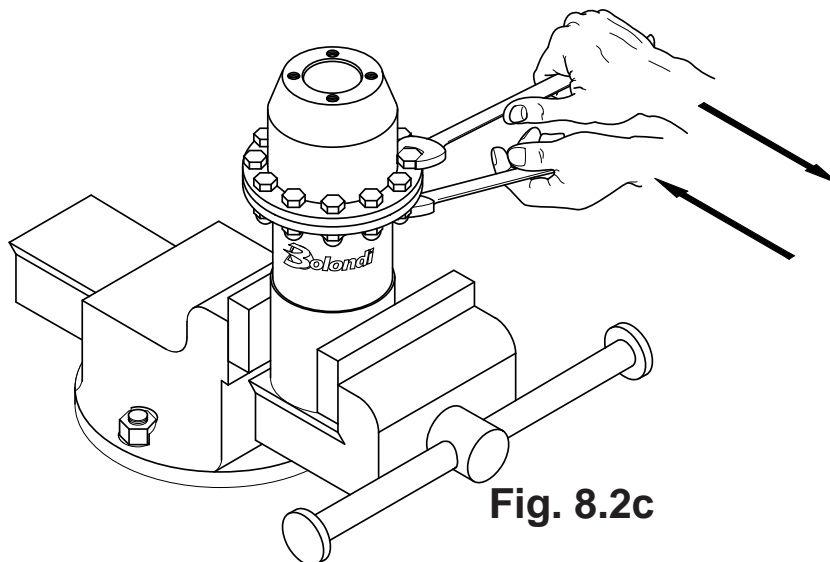

Fig. 8.2c
- d) To tighten, use the torque wrench set as per **table "B"** of the manual, see **(fig. 8.2c)**.